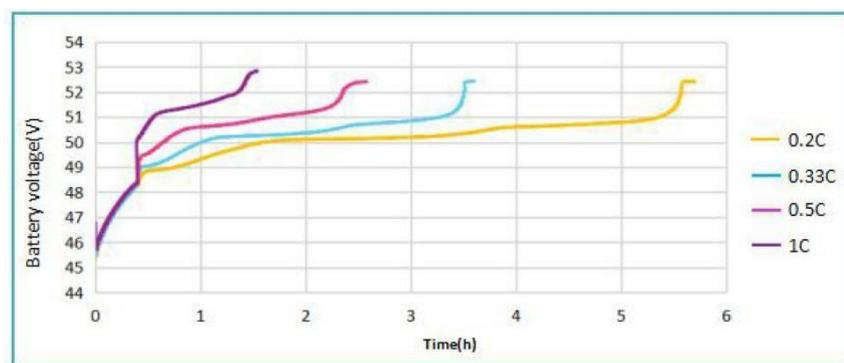

Figure 5-1 Charging curve
- When the battery charging current exceeds the charging over-current protection value, or there is charging low temperature or high temperature alarm, or the cell voltage is too low or too high, the battery will start current limiting charging automatically, which charging current is approximately 10 A. Charging curve of the battery at room temperature is shown in Figure 5-1.